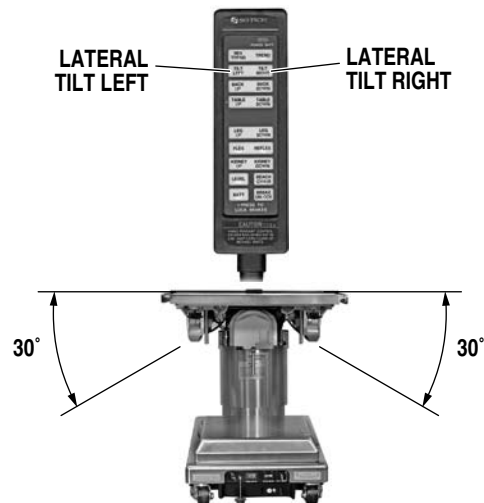

Figure 2-7. Lateral Tilt Positioning
c. Lateral Tilt. To achieve lateral tilt right (as viewed from the head end of the table), press the TILT RIGHT button (figure 2-7). To achieve lateral tilt left, press the TILT LEFT button. Tilt of up to 30° may be obtained if Trendelenburg positioning is less than 20°.